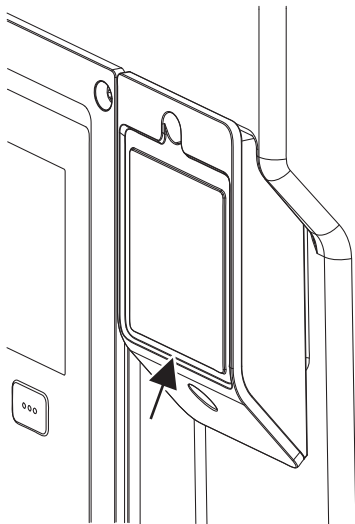

Fig. 28: Cover for Wilo-Smart Connect module BT
1. Loosen the screw of the Wilo-Smart Connect module cover (Fig. 28) and open the cover.
Due to its design, the Wilo-Smart Connect module BT can only be plugged in in one alignment. There is no further fixing of the module itself. The Wilo-Smart Connect module cover (Fig. 28) on the upper part of the electronic module holds the module firmly in the interface.